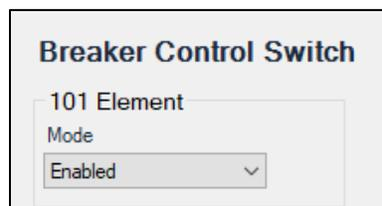

Figure 26-4. Breaker Control Switch Settings Screen
Breaker control element operational settings are configured on the Breaker Control Switch (101) settings screen (Figure 26-4) in BESTCOMSPlus.